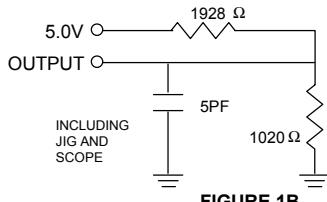

FIGURE 1B
5. Transition is ensured $\pm 500\text{mV}$ from steady state with $C_L = 5\text{pF}$ as shown in Figure 1B.
10. Transition is measured $\pm 500\text{mV}$ from steady state with $C_L = 5\text{pF}$ as shown in Figure 1B. The parameter is guaranteed but not 100% tested.